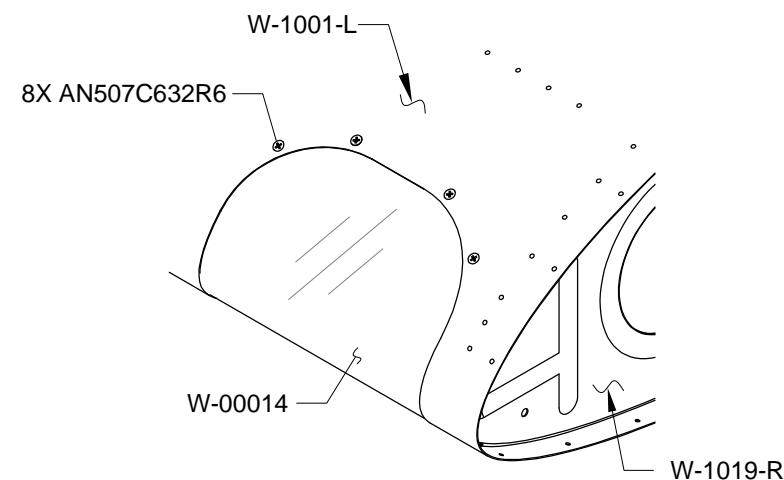

FIGURE 6: INSTALLING THE LENS
Step 10: Install the W-00014 Lens as shown in Figure 6.